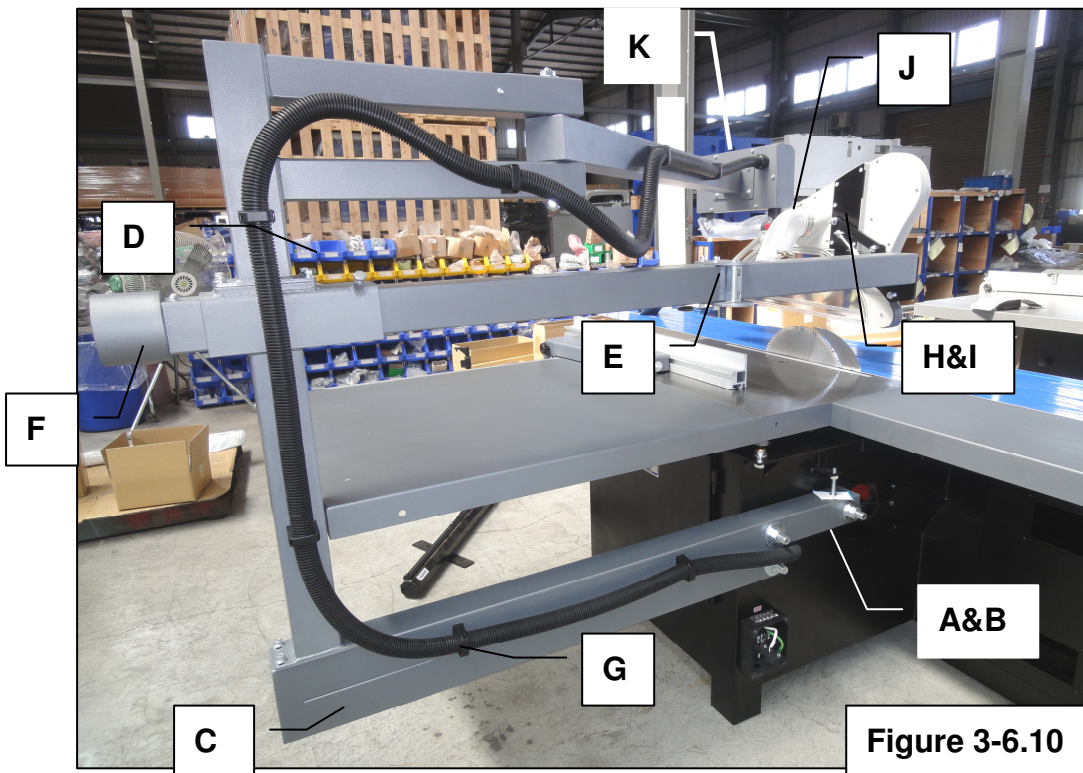

Figure 3-6.10
Note: Figure 3-6.10 shows the overall assembly points
8. Fix the cable as shown (Fig. 3-6.10) and control panel with 4 screws (**K**, Fig. 3-6.10).